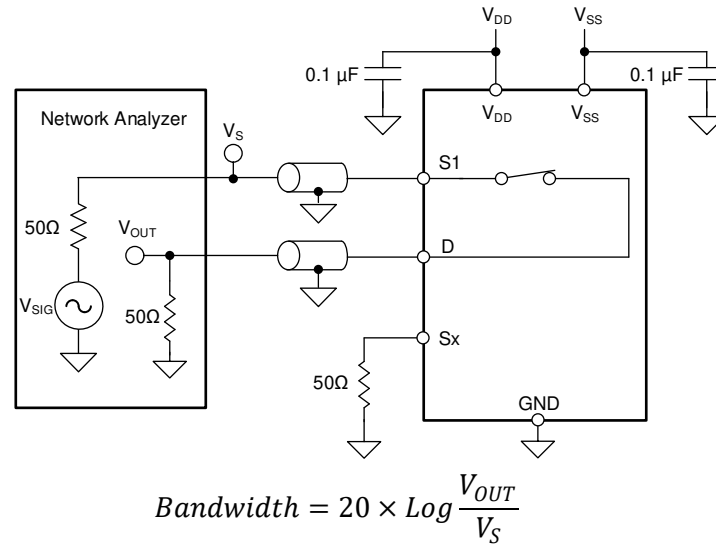

图 8-12. Bandwidth Measurement Setup
Bandwidth is defined as the range of frequencies that are attenuated by less than 3 dB when the input is applied to the source pin (Sx) of an on-channel, and the output is measured at the drain pin (D) of the device. 图 8-12 shows the setup used to measure bandwidth.